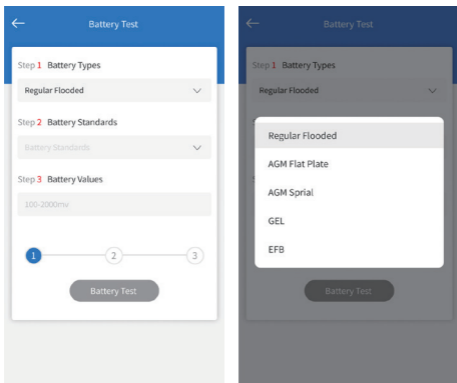

Figure 4.1.1
2. Select the corresponding battery type (See figure 4.1.1). The specific battery type is usually listed on the battery label.